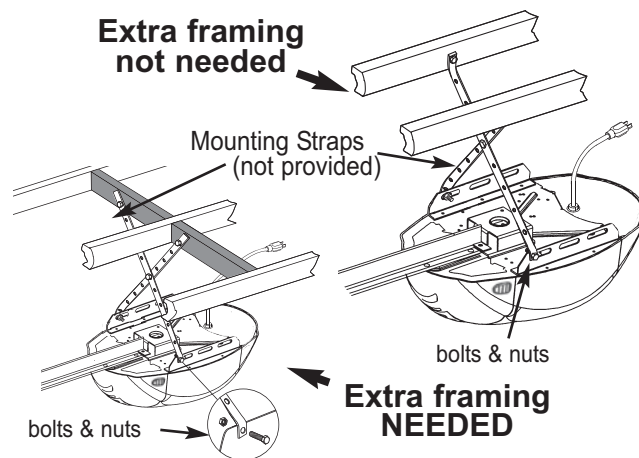

FIG. 2-6 Mounting the power head.
- On finished ceilings, locate ceiling joists or trusses using a stud finder or similar device. Attach angle iron (not provided) to joists or trusses through finish material using (provided) lag screws (Fig. 2-6).
- On unfinished ceilings or open ceilings, straps may attach directly to joists or trusses. Depending on the garage construction, extra framing material (not provided) may be required which should be installed using appropriate construction techniques (Fig. 2-6).
- Attach mounting straps to ceiling using lag bolts (Fig. 2-6).
- Set height of power head to following: (Fig. 2-6).